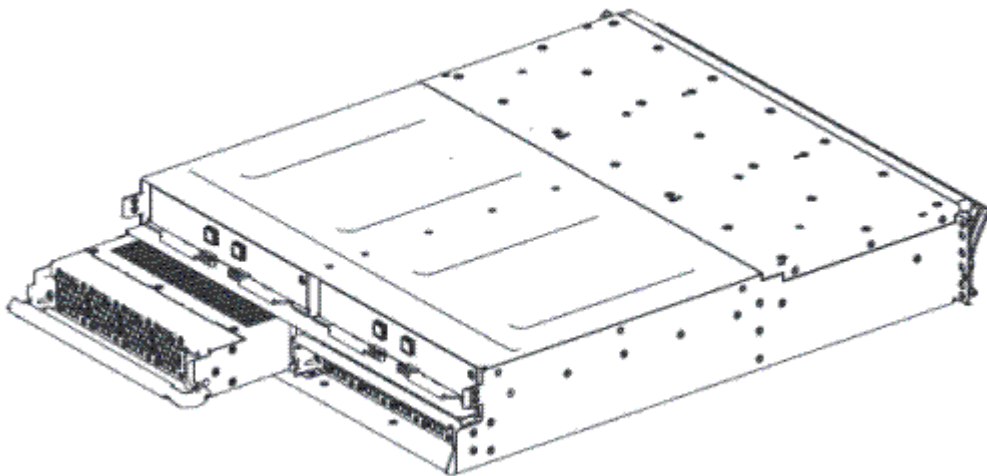

Figure 106. Removing the power supply unit from the left side of the expansion enclosure
5. Using the handle, gently slide the power supply out of the enclosure, as shown in Figure 106 on page 160.